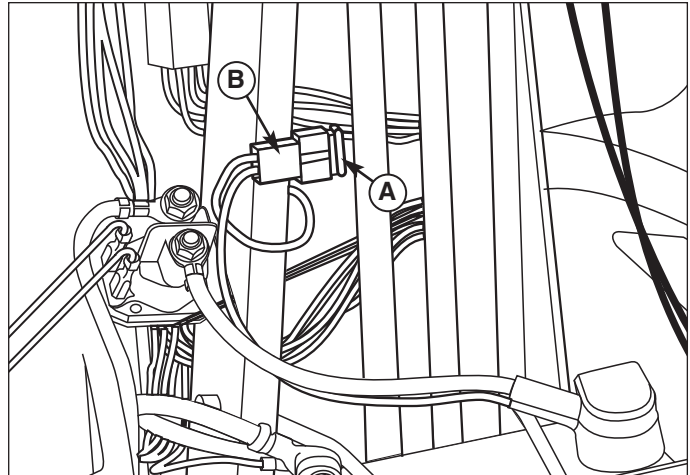
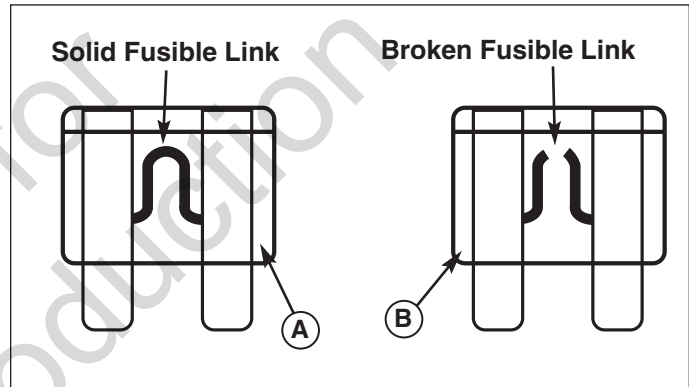

Figure 36. Fuse
Figure 37. Blade Type Fuse
1. Open the hood and locate the fuse holder (B, Figure 36) and fuse (A). Attached to the steering tower.
2. Hold the fuse holder (B) and pull out the fuse (A).
3. Inspect the fuse for a broken connection. See Figure 37. Replace fuse if connection is broken. If you are not sure if connection is broken replace fuse.
4. Hold the fuse holder (B) and insert new fuse (A) until it is seated properly.